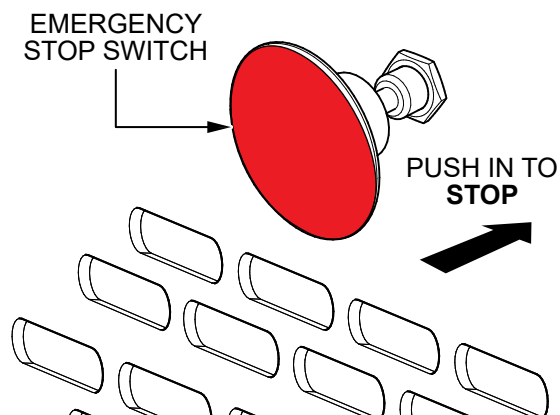

Figure 24. Emergency Stop Switch (STOP)
8. Once the engine has started, the emergency stop switch should be tested for proper operation. Push the emergency stop switch (Figure 24) and observe that the engine has stopped.